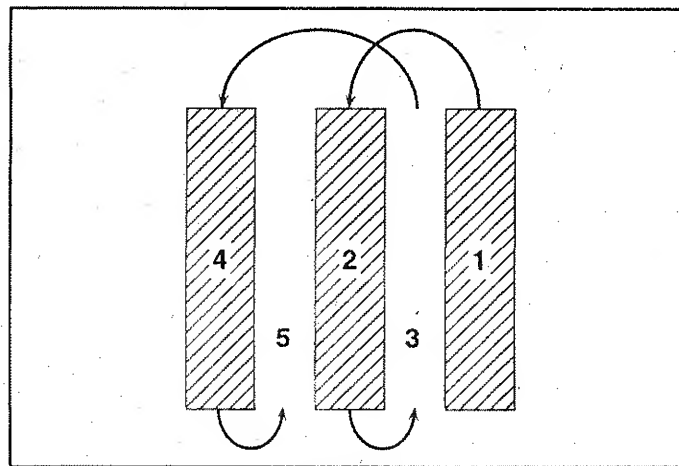

FIG. 14
- For easier handling of your tiller, leave about 8 inches (20 cm) of untilled soil between the first and second tilling passes. The third pass will be between the first and second (See Fig. 14).